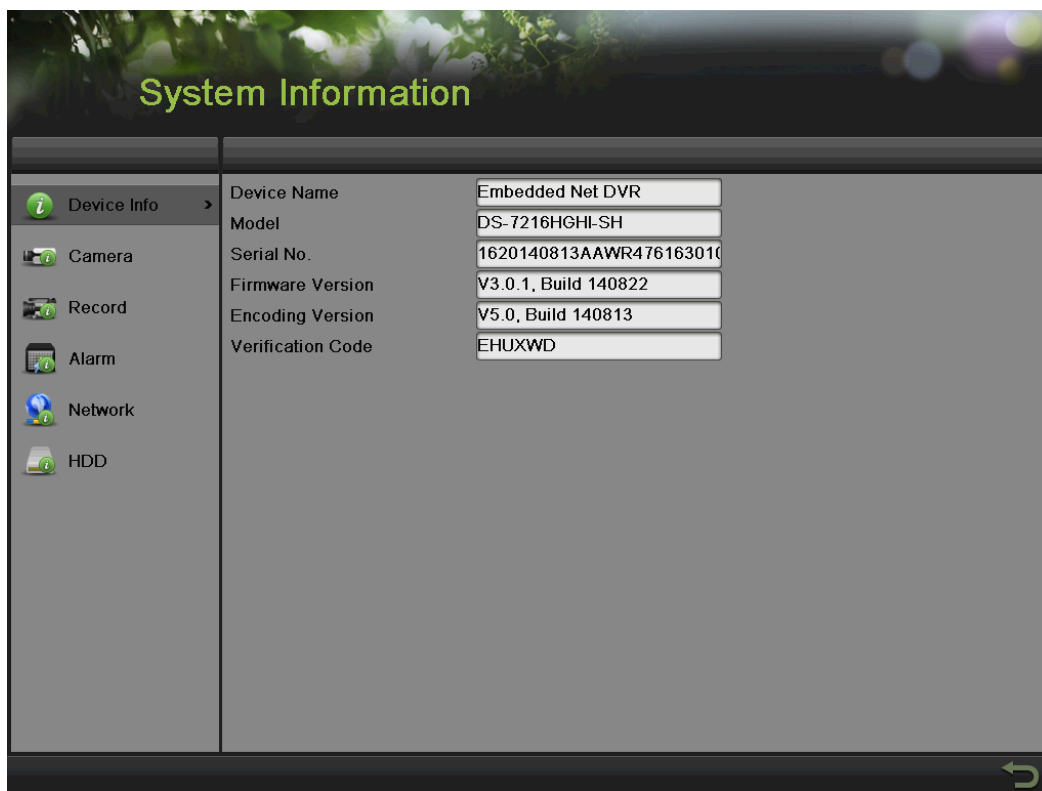

Figure 45 System Information Menu
The current status of your DVR can be checked at any time by going to the System Information menu. The System Information menu, as shown in Figure 45, can be accessed by going to Menu > System Information.
1. Select the Device Info tab to enter the Device Information menu to view the device name, model, serial No., firmware version and encode version, as shown in Figure 45.